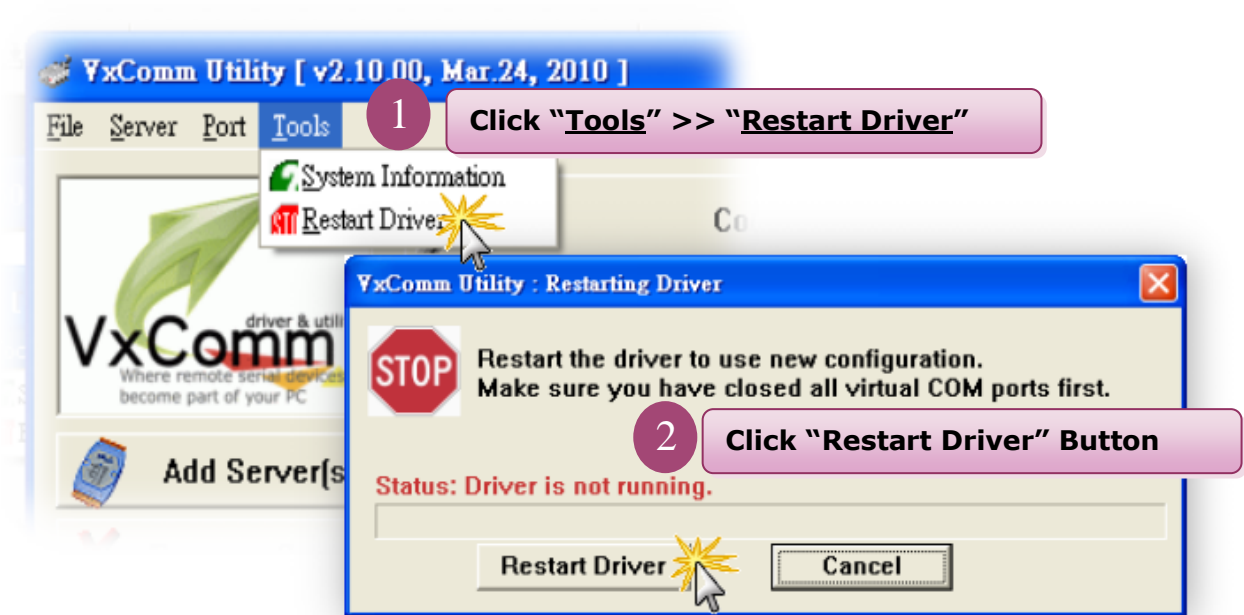

Fig 4-5
4. Click **“Tools”** >> **“Restart Driver”**, and then click the **“Restart Driver”** button, please refer to Fig 4-5.